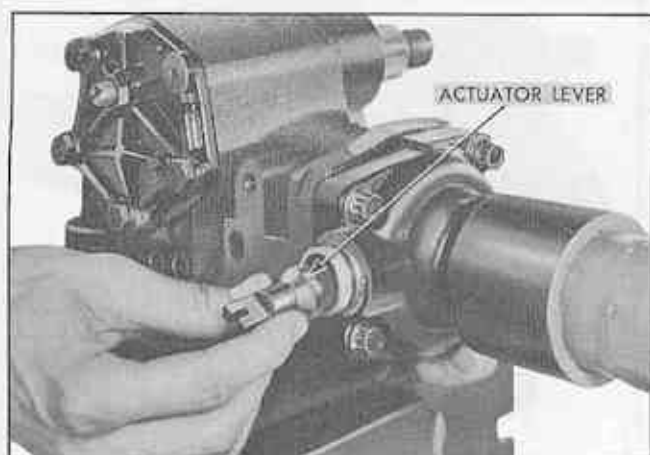

Fig. 53 Removing Actuator Lever
6. Remove actuator lever from end cover (Fig. 53).